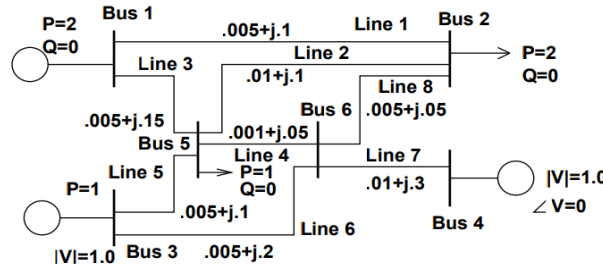

Figure 1: Load Flow Problem
4. Figure 1 shows a load flow situation. There are two generators, one generating at unity power factor, the other under voltage control. The generator on bus 1 is producing two per-unit real power and